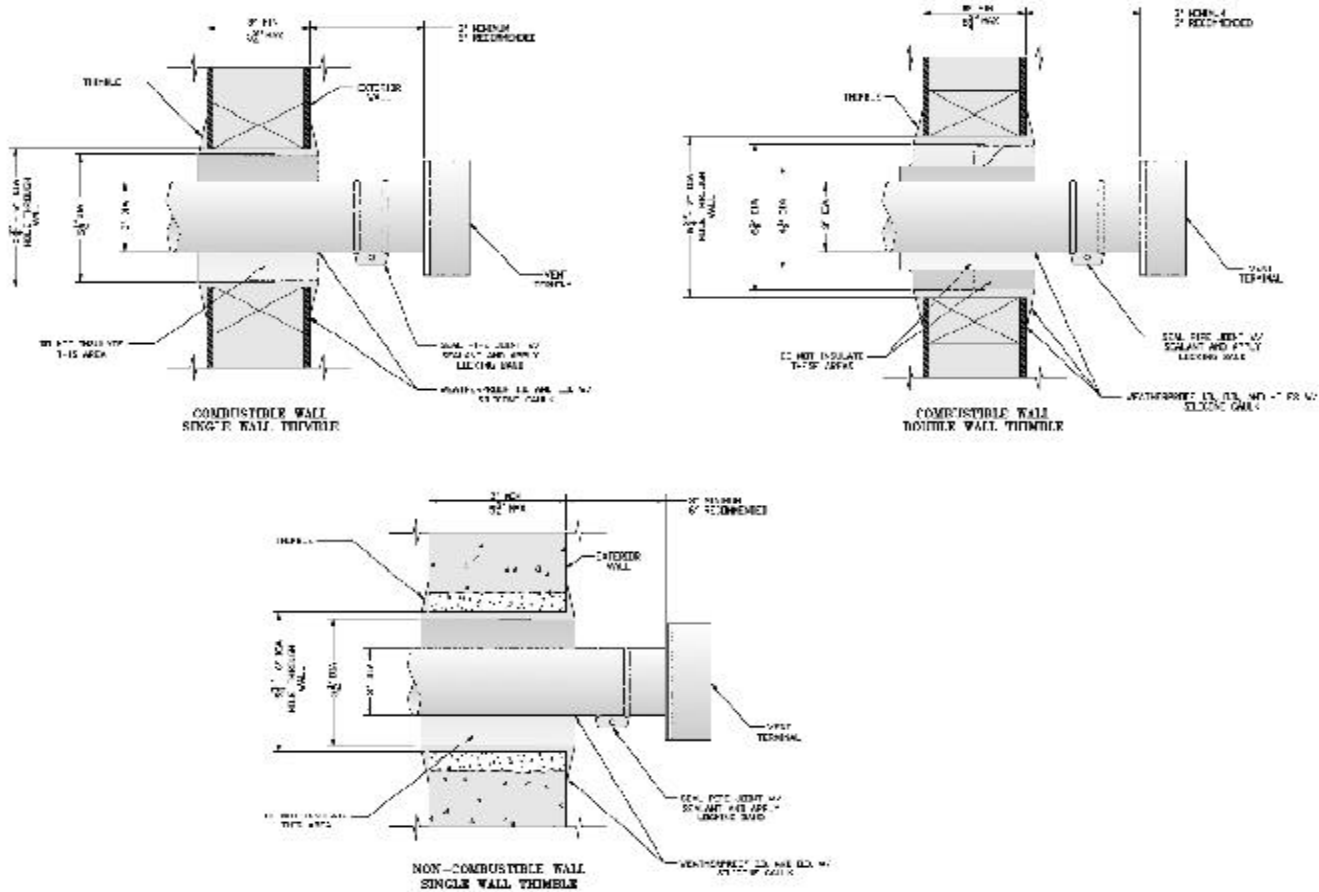

Figure 9: Recommendations for Thimble and Wall Penetration
5. Join vent terminal to vent pipe. Cut vent pipe to locate vent terminal 3 inches (minimum) and 6 inches (recommended) from wall when joined to inside vent piping. See Figure 9. Vent terminal clearance to vinyl wall surfaces is 6 inches.